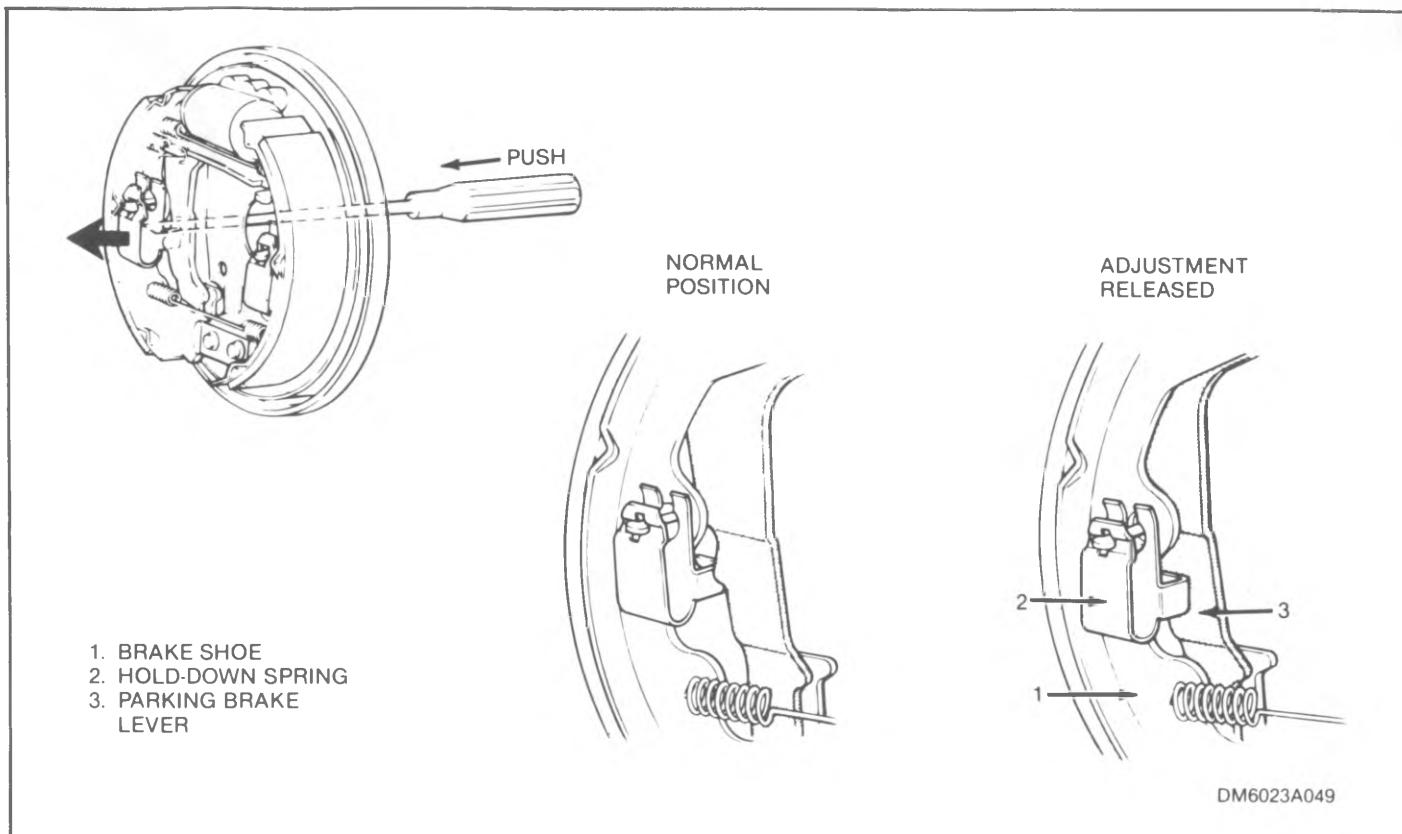

Figure 4-3. Releasing Brake Adjustment 1985-86 Sprint Leading-Trailing Shoe Drum Brake
3. Position tip of screwdriver on the shoe hold-down spring and push (see figure 4-3). This will allow the parking brake lever to spring outward and release the brake adjustment.